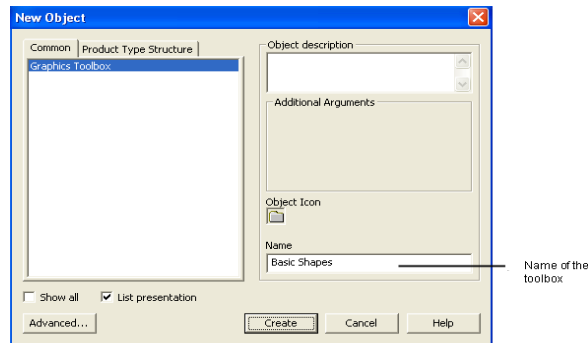

Figure 269. New Toolbox object
1. Create an object of **Graphics Toolbox** type in **Graphic Tools**. In this example, the toolbox *Basic Shapes* is created as shown in Figure 269.